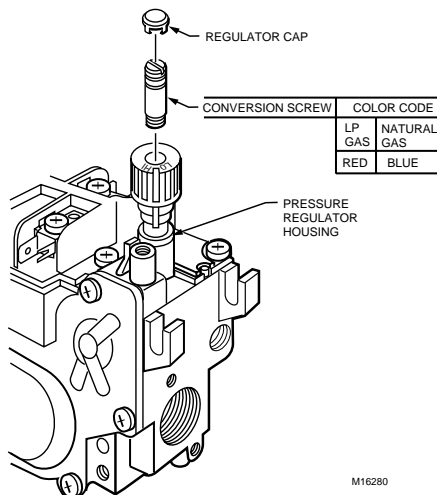

Fig. 2. Conversion screw, and regulator cap installation in a convertible High/Low regulator (for models VS8420E, VS8510E and VS8520E, only).
3. Install the new conversion screw. Assure that the conversion screw is finger tight. See fig. 2.